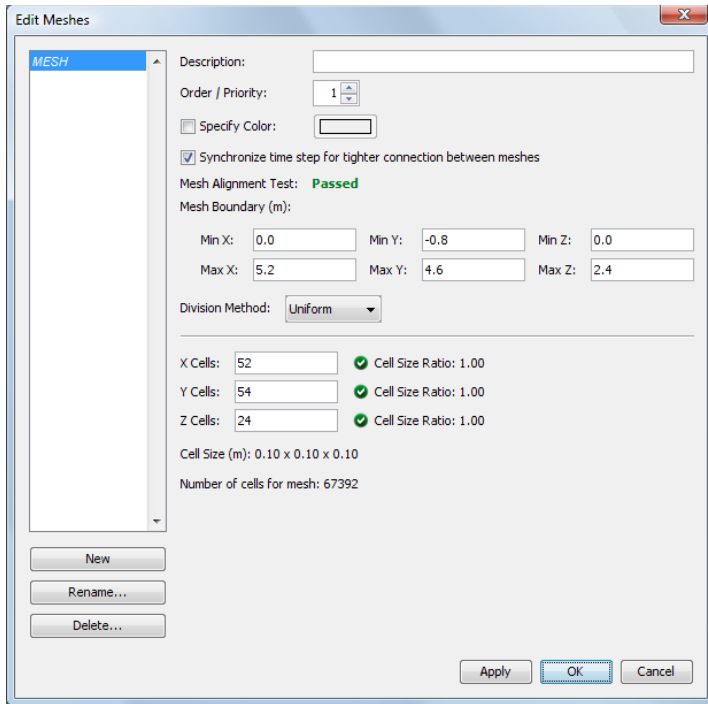

Figure 5.3. Creating the mesh
2. Click **New** and then **OK** to create a new mesh, see Figure 5.3